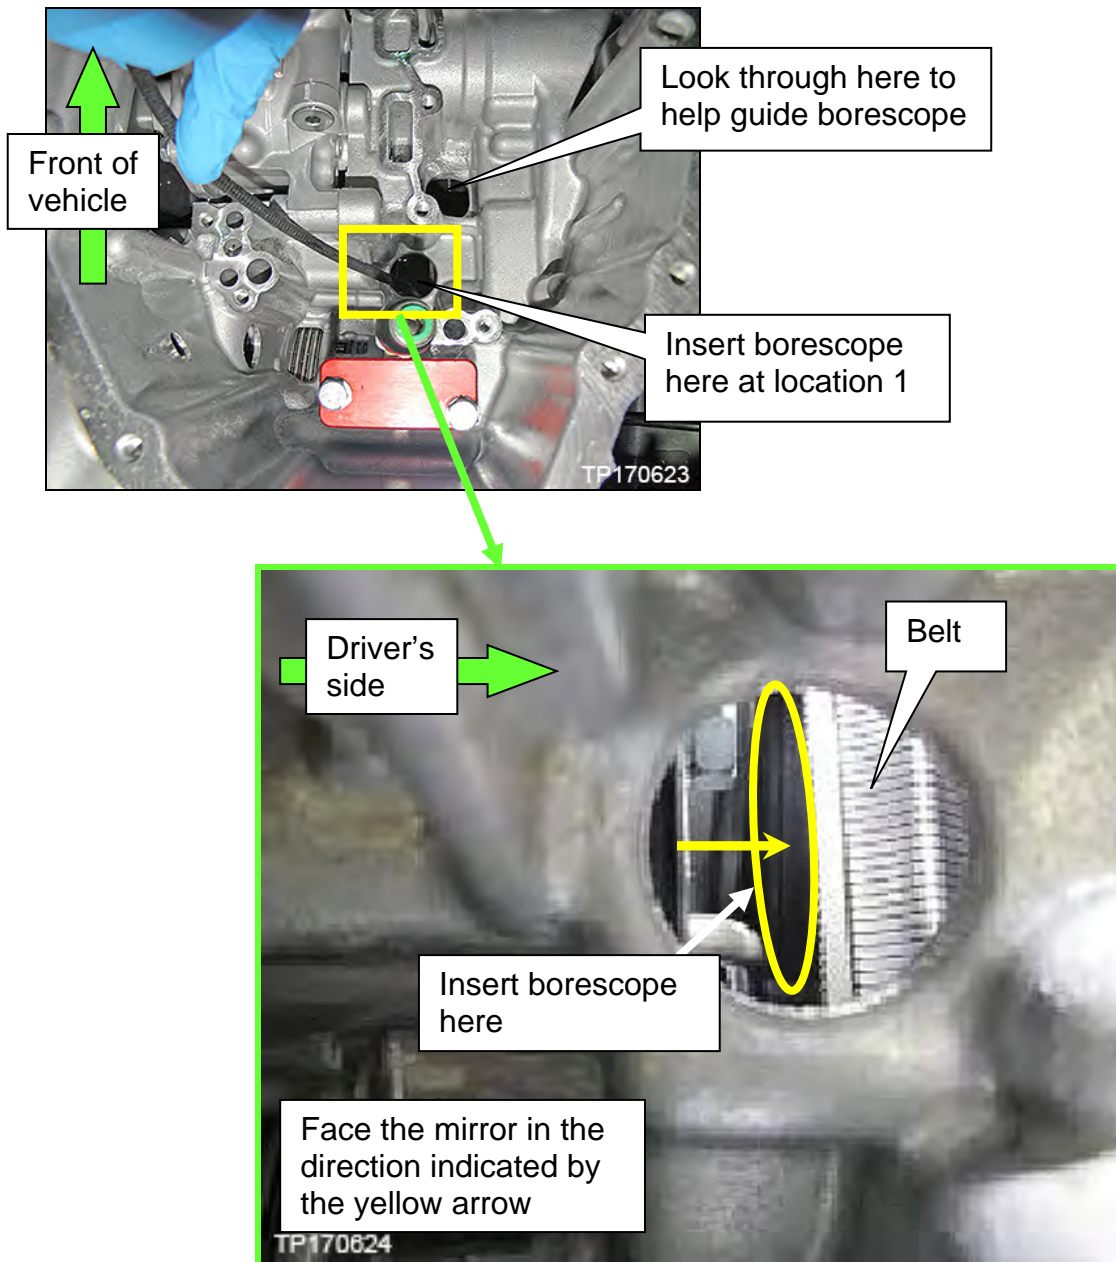

Figure 5C
c. Insert the borescope where shown in Figure 5C as follows: